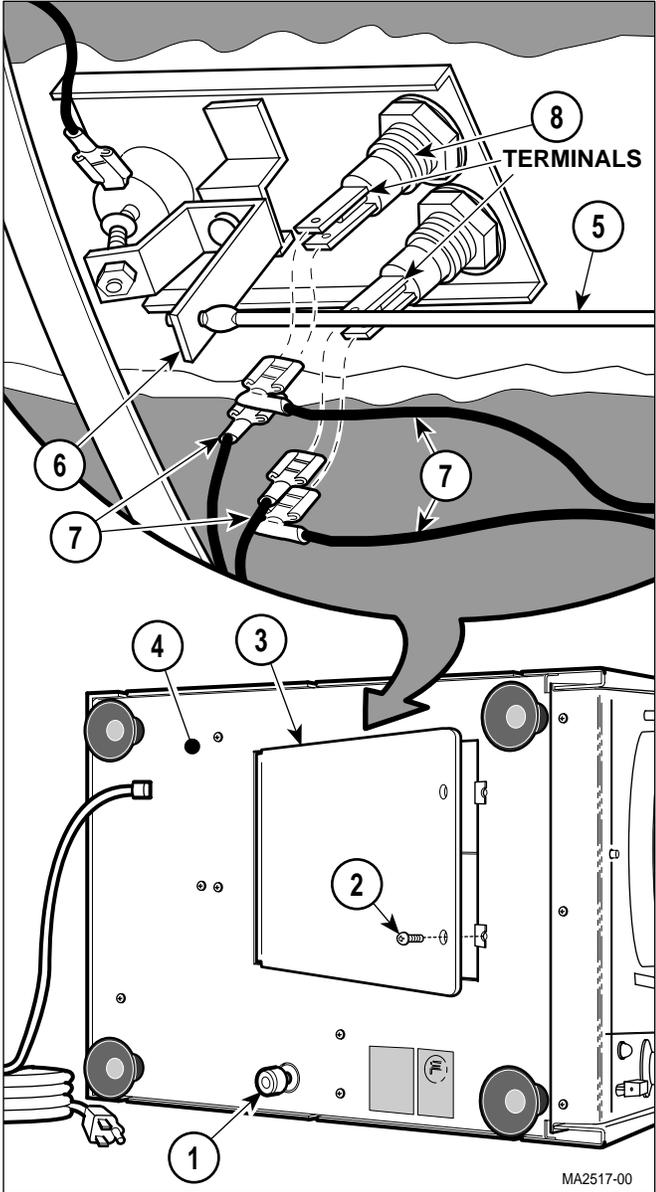

Figure 4-6. Inspection Cover Removal / Installation
- (1) Disconnect power cord from wall outlet.
- (2) Unscrew drain (1, Figure 4-6) and drain all water from condensing tank.
- (3) Remove wire rack and trays (Refer to para 4.20).
- (2) Install spacer (6) and heating element (4) on chamber wall and secure with bracket (5), two washers (3), lockwashers (2), and nuts (1).
- (3) Connect four wires (7, Figure 4-6) to terminals of heating element (8).
- (4) Taking care not to kink rod (5), flex rod and insert it into rocker bracket (6).
- (5) Install inspection cover (3) on base (4) and secure with two screws (2).
- (6) Turn unit upright.
- (7) Install wire rack and trays (Refer to para 4.20).
- (8) Tighten drain (1).
- (9) Connect power cord to wall outlet.
- (10) Fill condensing tank with distilled or demineralized water.